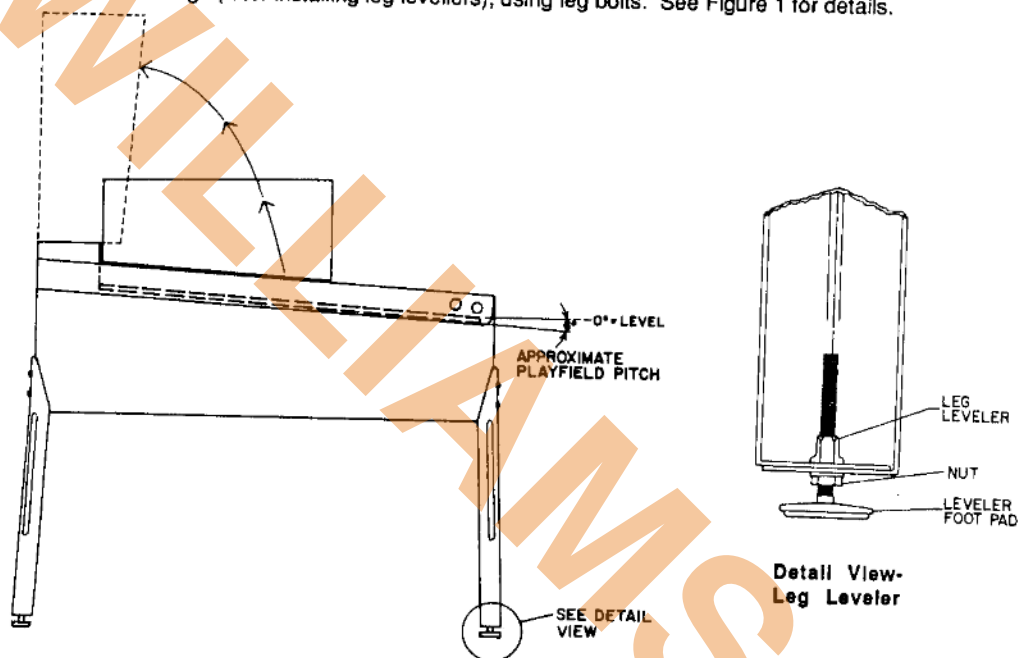

Figure 1. Pinball Assembly, Playfield Pitch Angle, and Leg Leveler Details.
3. Attach the front legs (after installing leg levellers), using leg bolts. See Figure 1 for details.
7. Adjust the leg levelers for proper playfield level (side-to-side) *and* playfield pitch angle (incline) of approximately 6 degrees. (Again, it is recommended that these measurements be made **ON** the playfield, not the cabinet nor the playfield cover glass.) Tighten the nut on each leg leveler shaft to maintain this setting, as shown in Figure 1.